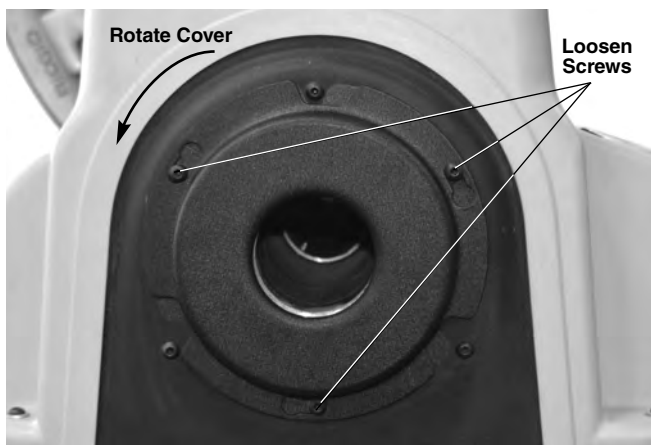

Figure 25A – Removing Rear Cover
- Make sure that the REV/OFF/FOR (2/0/1) switch is in the OFF (0) position and the cord is unplugged from the outlet.
- Remove rear cover. Loosen cover screws and rotate cover to remove (*Figure 25A*).